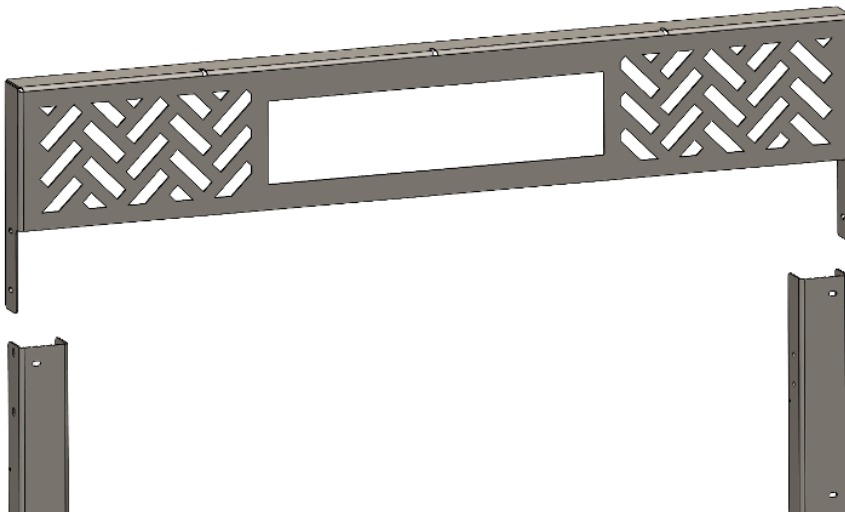

Figure 5
7. Attach 23026 top section (Figure 5) Use four (4) $\frac{1}{4}$ " Stainless Steel Cap head bolts, eight (8) stainless flat washers, and four (4) stainless nuts per piece. (Figure 5)